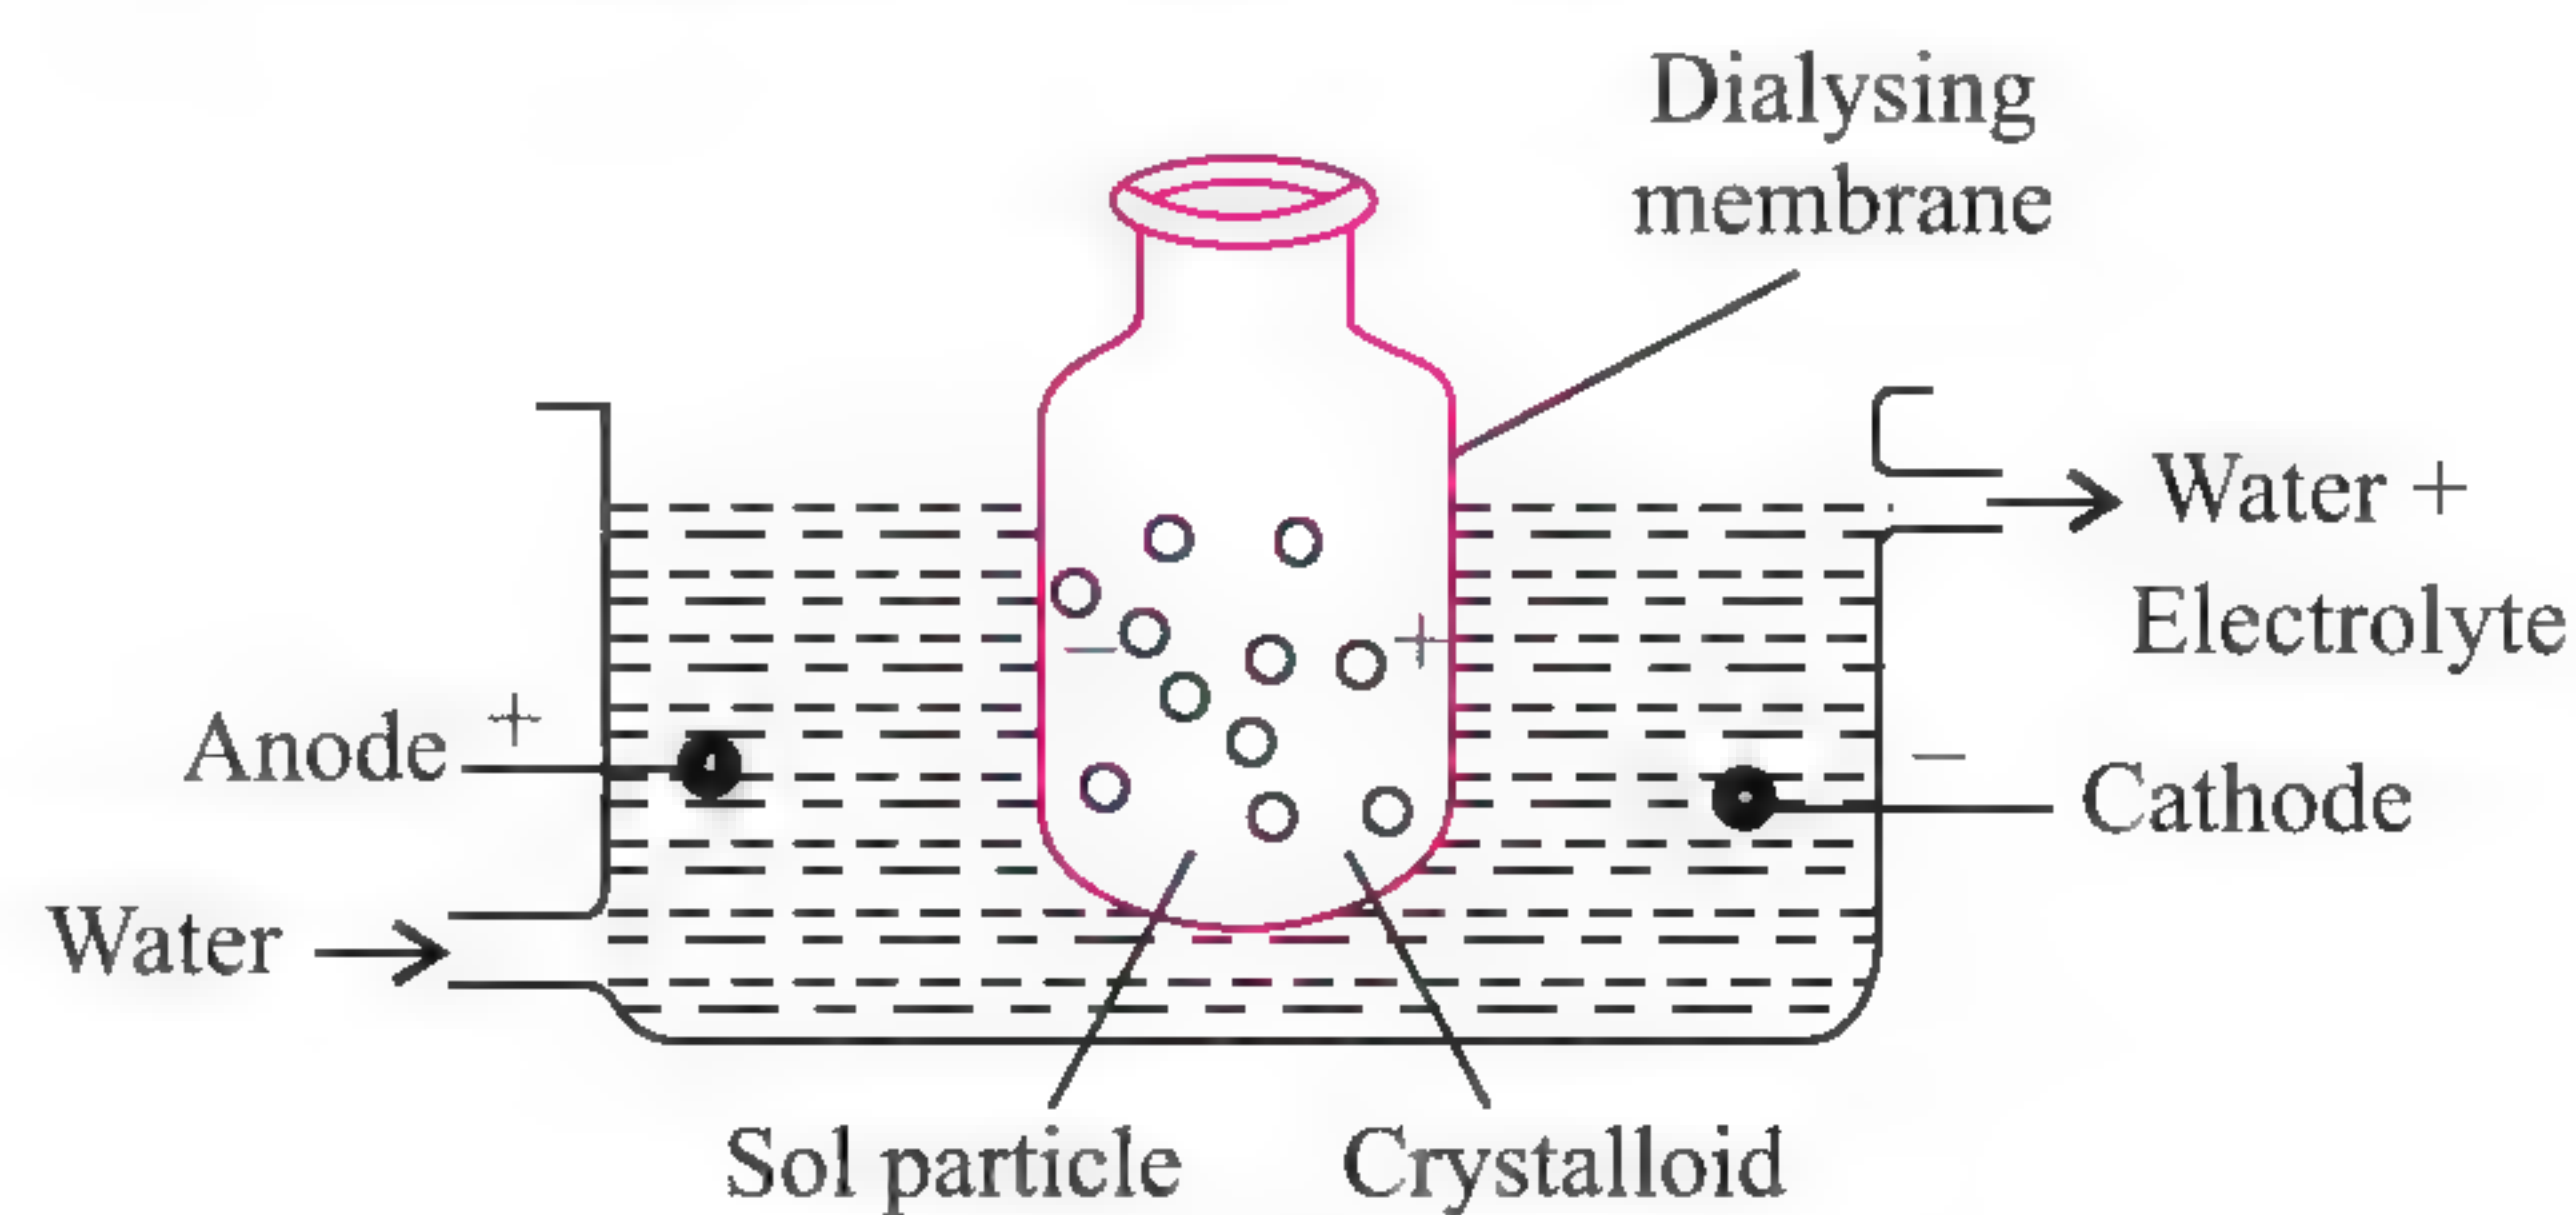

Fig. 5.20 Electrodialysis
- b. Electro-dialysis:** Ordinarily, the process of dialysis is quite slow. It can be made faster by applying an electric field if the dissolved substance in the impure colloidal solution is only an electrolyte. The process is then named electrodialysis. The colloidal solution is placed in a bag of suitable membrane while pure water is taken outside. Electrodes are fitted in the compartment as shown in Fig. 5.20. the ions present in the colloidal solution migrate out to the oppositely charged electrodes.